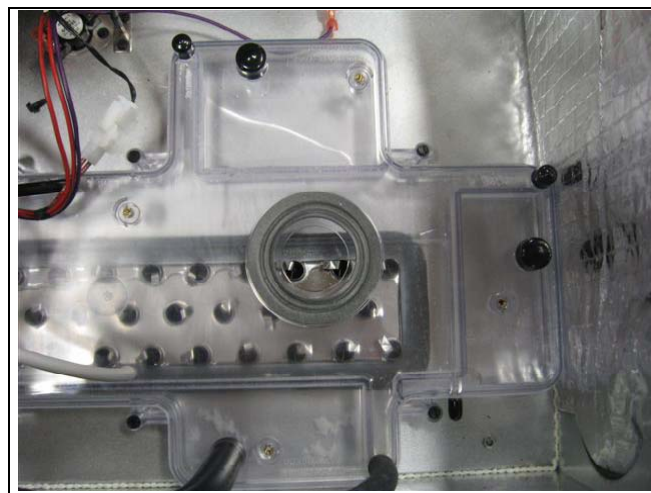

FIGURE 2
1. Remove the existing inducer from the condensate pan as shown in Figure 2.